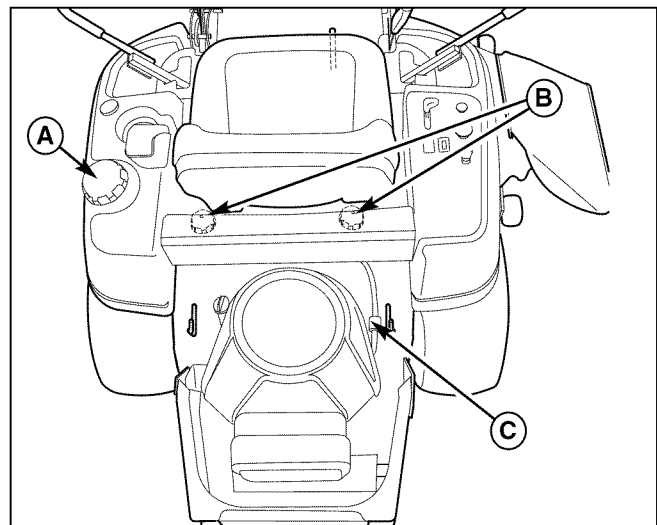

Figure 27. Maintenance
2. Remove the fuel cap (see A, Figure 27).
3. Using pliers, open and slide the hose clamps from the fuel filter (C, Figure 27).